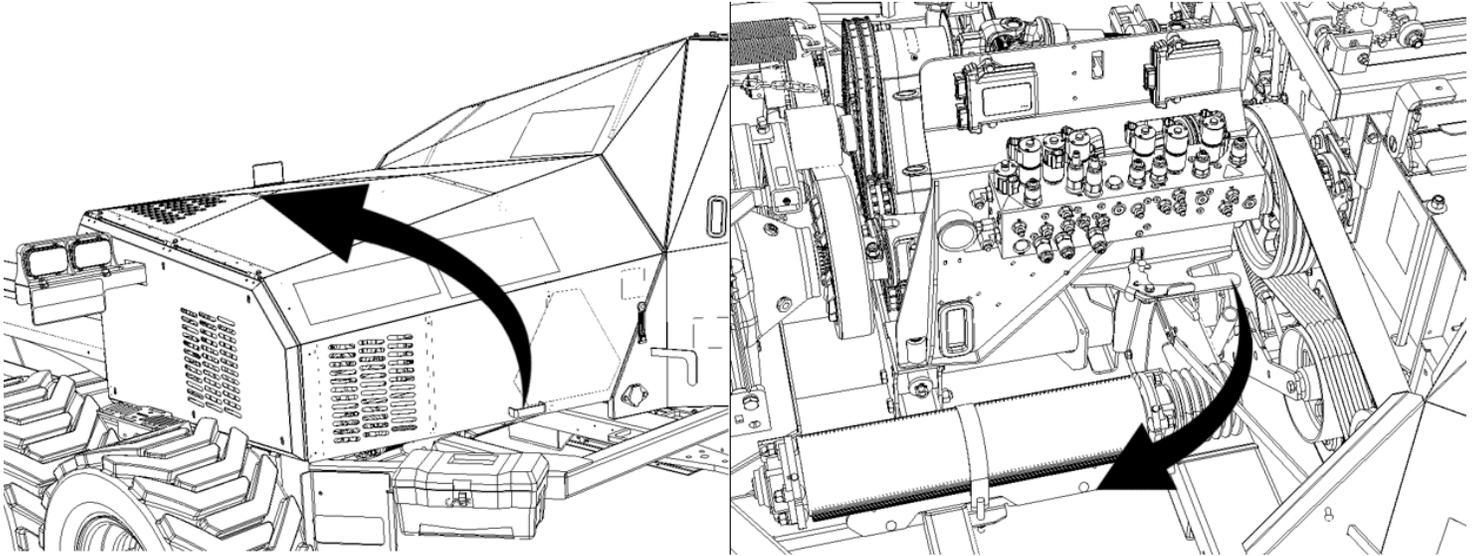

Figure 19 Main guard and valve manifold
#### STEP 1 - FIGURE 19
Swing the hydraulic valve manifold back in place. Fasten the bottom roll stainless plate (item 2) on the plastic guide rails with the provided wing bolts (item 1). Close the main guard. (Reverse from Step 1 – Figure 19 Main guard and valve manifold).